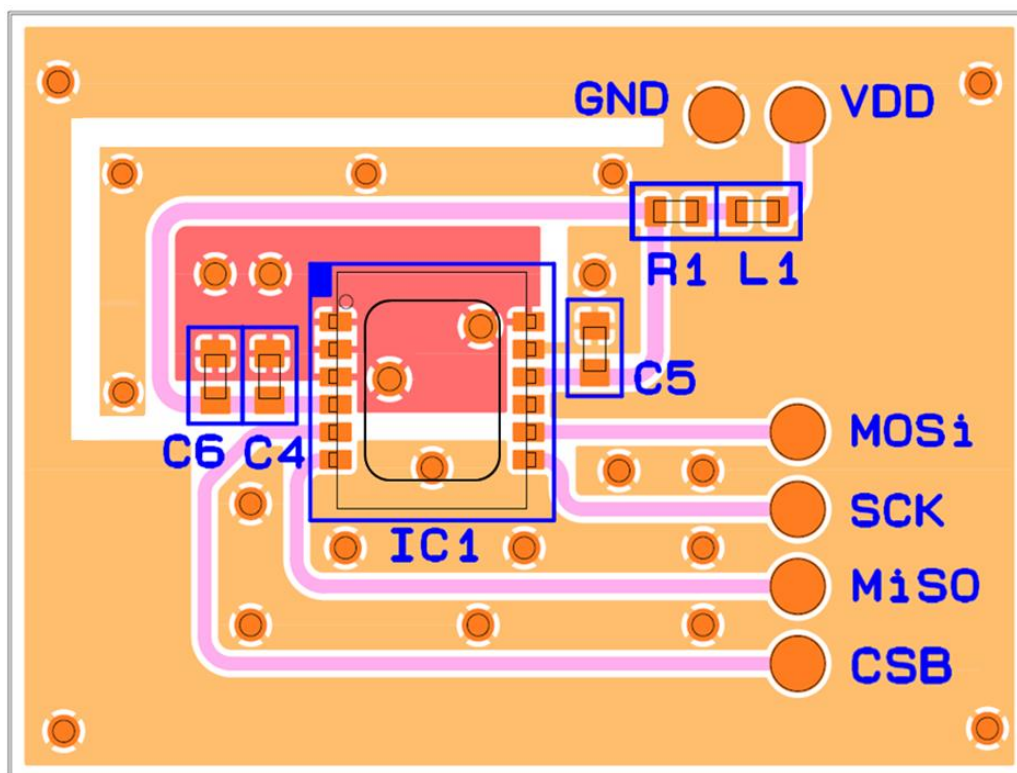
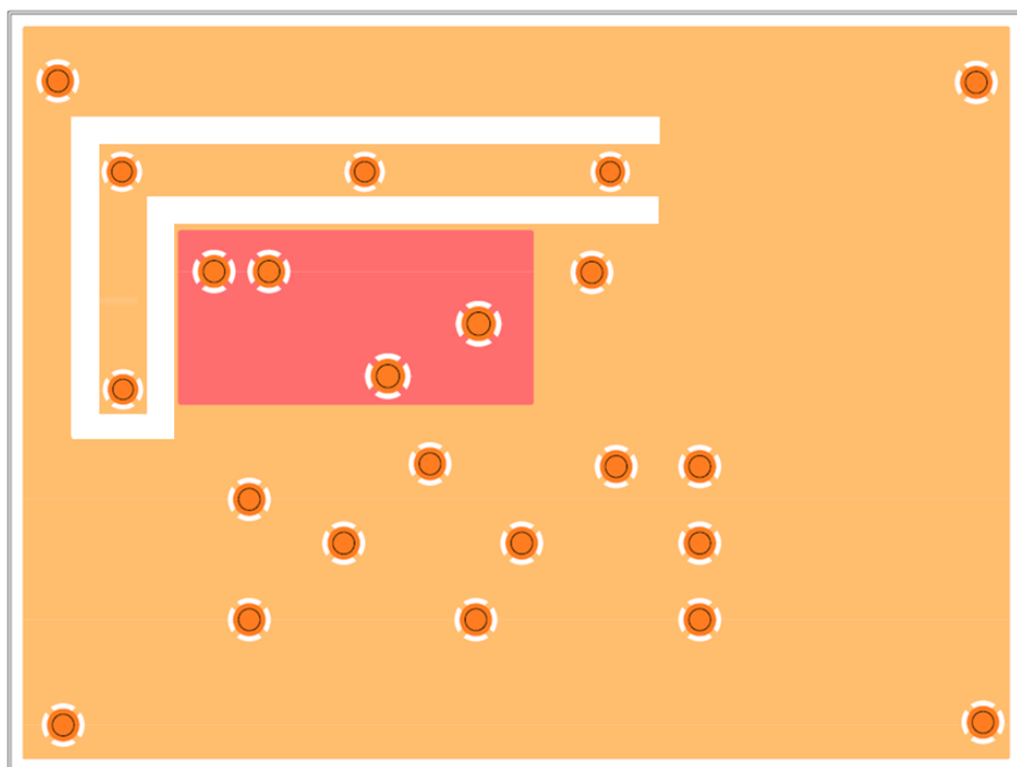

Figure 10: Recommended PWB layout for product family components with SPI interface (Top layer, Not actual size, for reference only)
Figure 11: Recommended PWB layout for product family components with SPI interface (2nd layer, Not actual size, for reference only)
Recommended PWB layout for all product family components with SPI interface is shown in Figure 10 and Figure 11. Following design rules and recommendations should be considered:
- 3 Use separate ground levels AVSS and DVSS under and near the component but connect them together on the PCB, see Figure 10